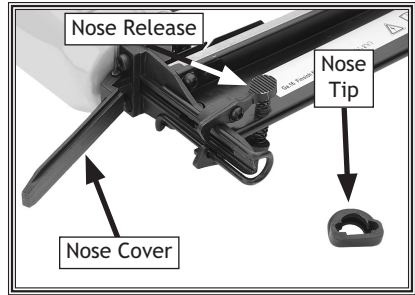

Figure 6. Nose opened to clear jam.
4. Access the nailer nose by removing the rubber nose tip, squeezing the nose release mechanism, and opening the nose cover (see **Figure 6**).